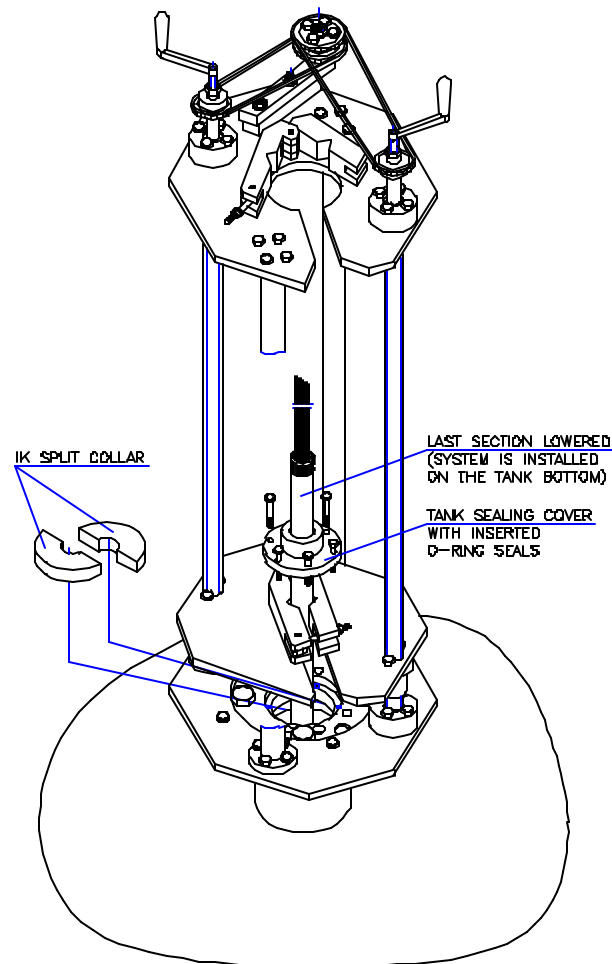

Figure 20
3. Insert the two halves of the **Optional Split Collar** inside the **IK Base Plate**, so that they rest on the **Base Flange**. This helps to hold the System in a static position while you carry out the final stages of the installation (*see Figure 20*).